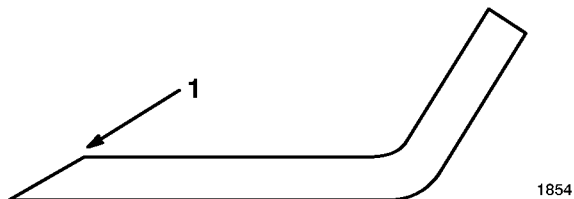

Figure 37
1. Use a file to sharpen the cutting edge at both ends of the blade (Fig. 37). Maintain the original angle. The blade retains its balance if the same amount of material is removed from both cutting edges.